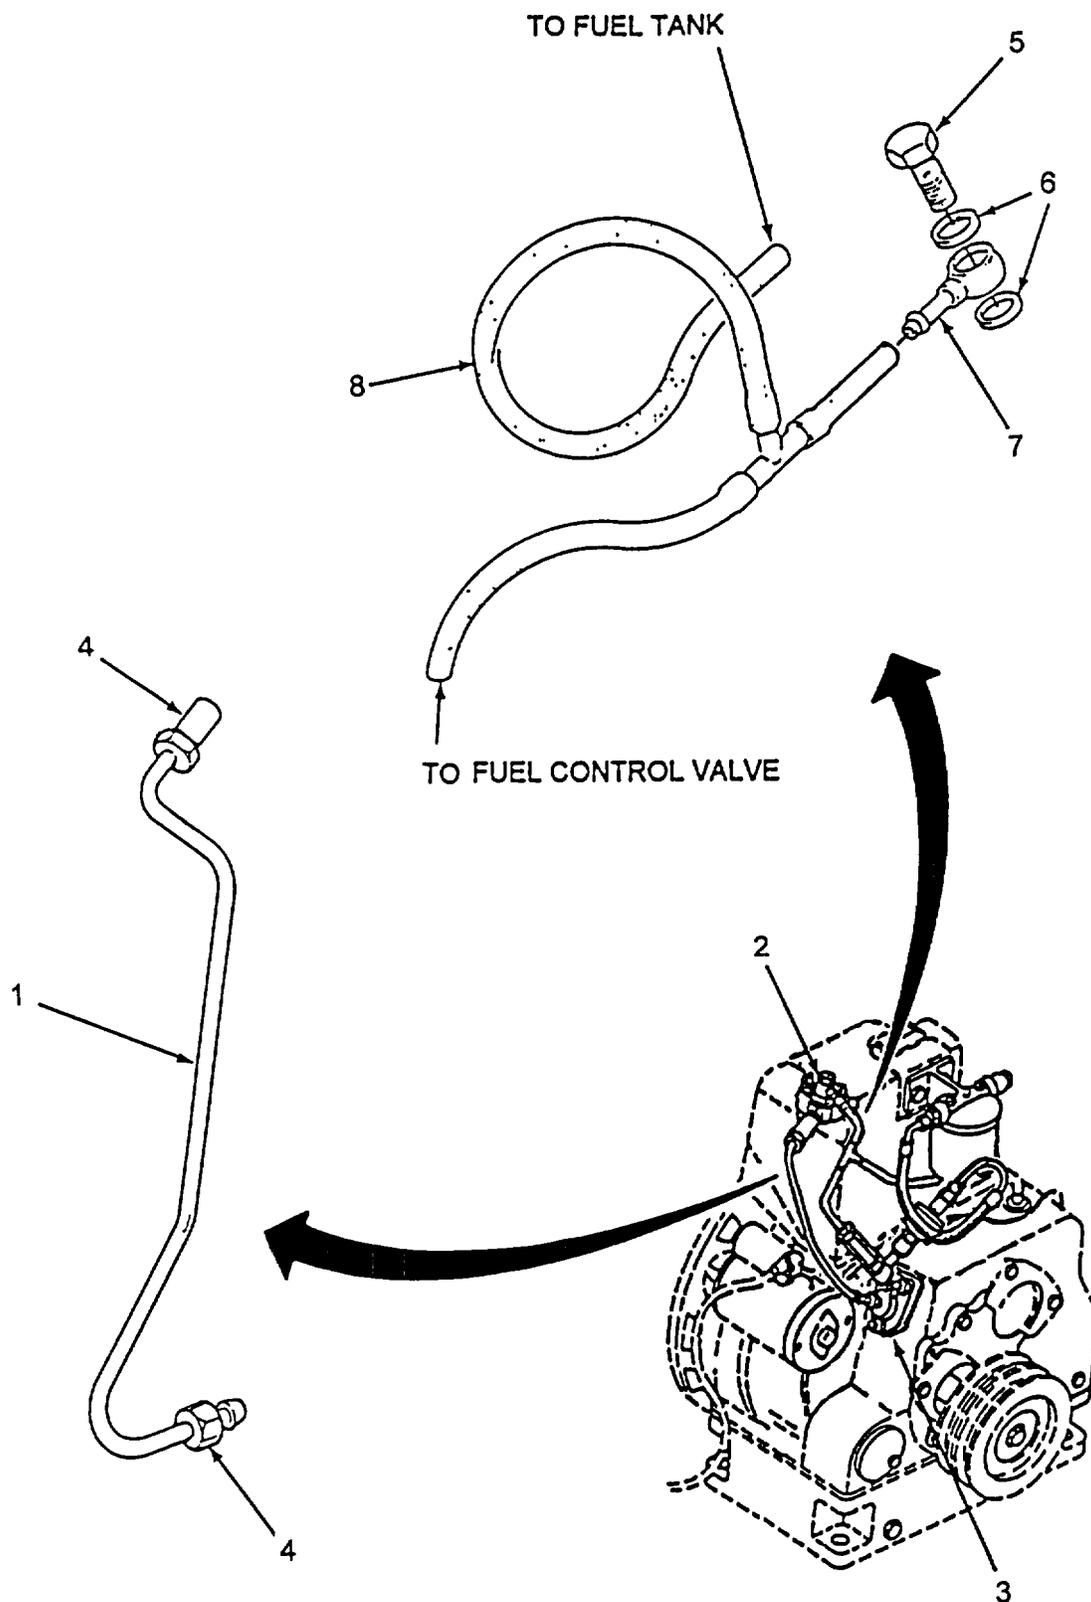

Figure 5-11. Fuel Pipe-Pump and Leak-Off Pipe
**a. Fuel Pipe-Pump and Leak-Off Pipe.****(1) Removal. (Refer to Figure 5-11).**
- (a) Remove pump-to-injector fuel pipe (1) from fuel injector (2) and fuel pump (3) by removing fuel pipe nuts (4).
- (b) Remove bolt (5), two washers (6), swivel union (7) from top of fuel injector (2). Remove pipe assembly tube (8) from swivel union (7).
**(2) Repair.**